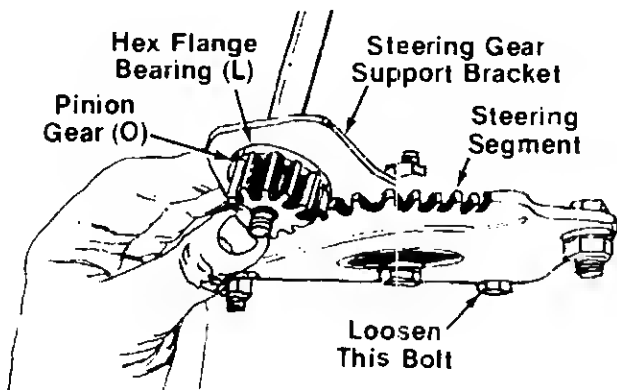

FIGURE 4.
4. Loosen the **hex nut** located at the **rear of the steering gear segment** (Ref. No. 27 on page 26) so that the steering gear segment can be pushed about 1/4" toward the rear of the rider, to permit easier assembly of the **pinion gear**. Two 9/16" wrenches are required. See figure 4.
5. Place **hex flange bearing (L)**, flat side down, over the end of the **steering shaft**, and seat it into the **steering gear support bracket**. See figure 4.